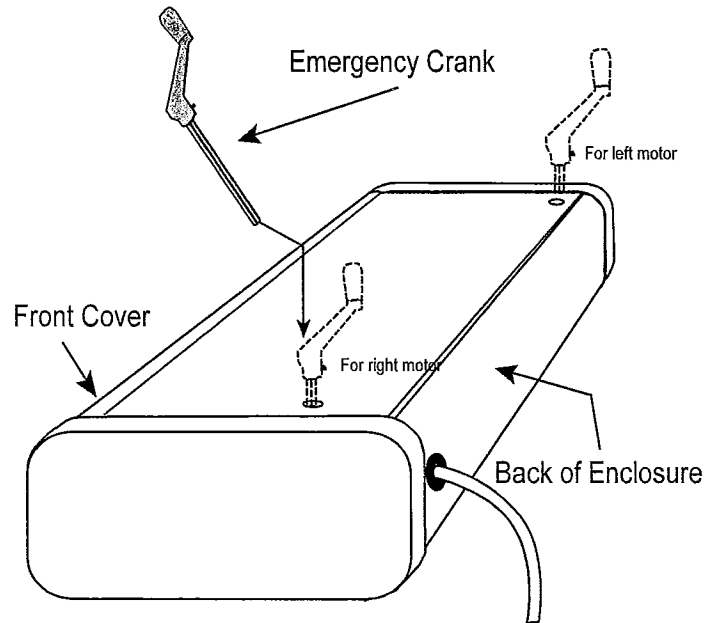

Fig. 2
1. Open the awning by using either the wall switch (Fig. 1) or hand held remote (Fig. 2).
Determine which end of the awning houses the motor (the cord should exit the back of the enclosure nearest the motor end). Remove the plastic plug closest to the front cover. Insert the emergency crank through the top of the enclosure and into the motor housing as shown in Fig. 2 (the crank should come within an inch of the top of the awning when it is fully inserted). If the motor is in the right hand end of the awning, rotate the crank counter clockwise to open or clockwise to close the awning. If the motor is in the left hand end, the direction of rotation will be the opposite of the above.